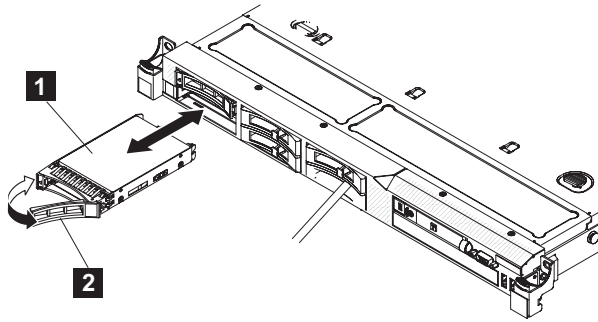

Figure 114. Solid-state drive (SSD) for the SAN Volume Controller 2145-CF8
- b. Rotate the drive handle to the open (unlocked) position, as shown in Figure 114 on page 113.